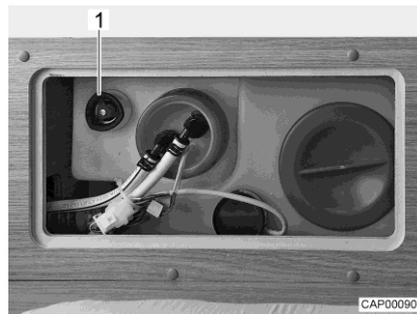

Fig. 96 Water tank with rotary handle
- Turn the rotary handle (Fig. 96,1) on the water tank in a clockwise direction as far as it will go.
- Turn the rotary handle (Fig. 96,1) on the water tank in an anticlockwise direction as far as it will go. Excess water will drain away leaving approx. 20 litres in the tank.